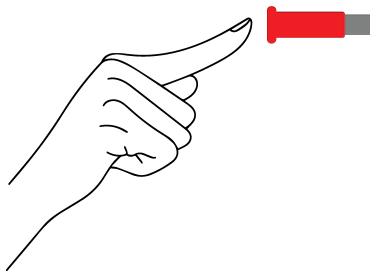
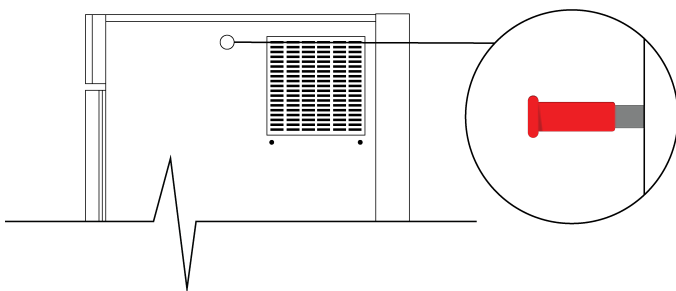

Fig 1. Press the red switch to reset
Fig 2. Refrigeration safety pressure switch location
- To reset, simply press the Red Button (**Fig 2**) on the top-left side of the cabinet (**Fig 1**). If the compressor does not start after pressing the Red Button, wait 30minutes to allow the pressure in the system to drop to a safe level. Then try again. The Pressure in the System needs to drop to 1800kpa before it will reset.